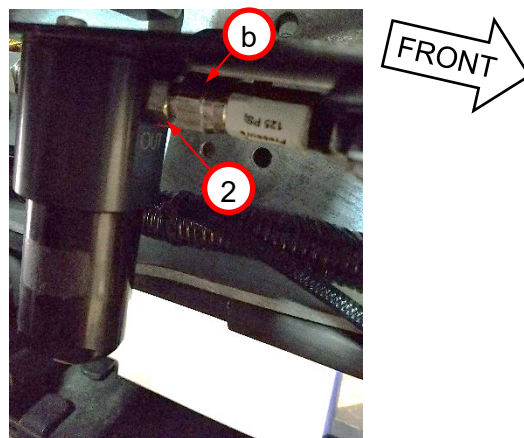

Figure 2:
6. Loosen compression fitting nut (b) at LP filter assembly OUT port fitting (2). *Figure 2*